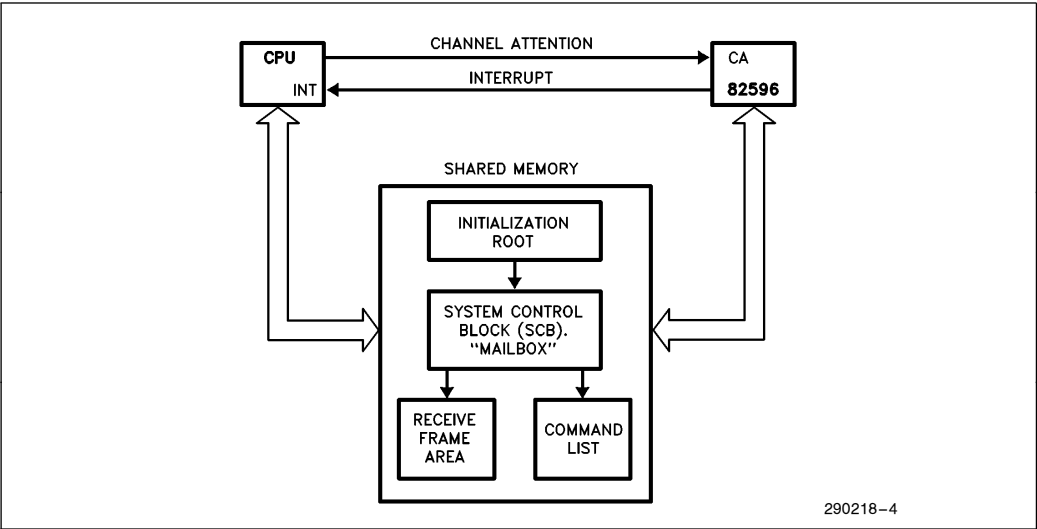

Figure 4. 82596 and Host CPU Intervention
The CPU and the 82596 use the hardware signals Interrupt (INT) and Channel Attention (CA) to initiate communication with the System Control Block (SCB), see Figure 4. The 82596 uses INT to alert the CPU of a change in the contents of the SCB, the CPU uses CA to alert the 82596.